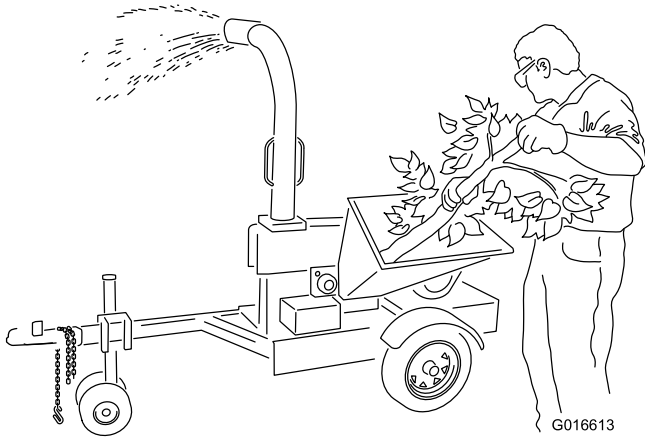

Figure 15
- Overloading the hopper will cause the rotor speed to decrease. If you hear the engine RPM decreasing, stop feeding material into the hopper until the engine has returned to full speed (Figure 15).